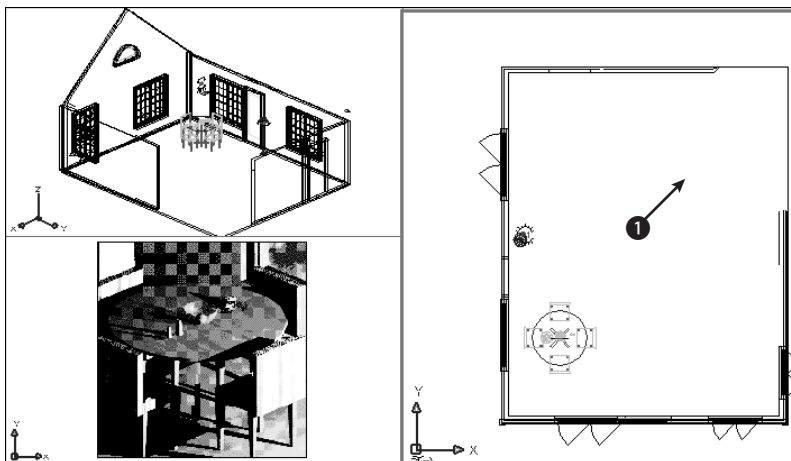

Figure 27-11: The drawing with a rendered view in one viewport
9. Choose Modify ⇨ Clip ⇨ Image. At the Select image to clip: prompt, select the image again, which is shown in Figure 27-11. Follow the prompts:
11. Click the Layout1 tab to enter paper space, which has three floating viewports. Click PAPER to enter model space. Click the bottom-left viewport. Choose View ⇨ 3D Views ⇨ Top. You should now see the images as a small dot to the left of the house. Use Zoom Window to zoom into the rendered table. Your drawing should now look like Figure 27-11.
12. Click the right viewport. If necessary, pan the house to the right until you can see the two images you attached. Move the Cottonmill Houses image to ① in Figure 27-11. Scale it, using a base point at its lower-left corner and a scale factor of 25. Move it until it fits nicely in the upper-right corner of the floor plan. Pan again to center the house in the viewport. (If it disappears, do a Zoom Extents.)